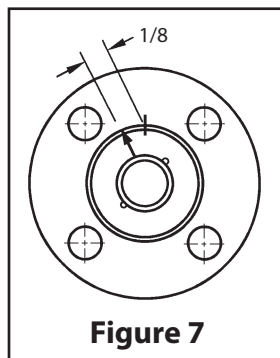

Figure 7
14. Gently place the body gasket (65) into the machined recess of the body (1).
15. Apply a lubricant compatible with the tank car commodity to the insert threads and screw the insert into the body. The tightening of the insert should be done using the insert field wrench. The insert must be tightened the same number of turns as in Step 11, insuring that the marks are no more than 1/8" (3.18 mm) apart, as shown in **Figure 7**.
16. Place the indicator stop (32) with "BTM" making facing down, over the stem so that the longer part is over the body.
17. Place the spring (33) over the stem (5) with the larger diameter contacting the indicator stop (32).
18. Compress the spring (33) and hold down by putting the retaining ring (34) in the groove in the stem (5).